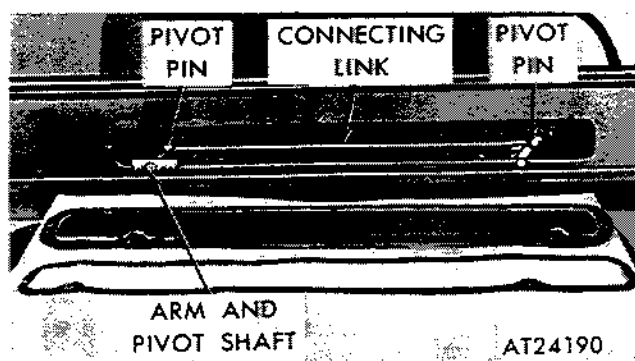

Figure 2-389. Removing or installing windshield wiper pivot shaft and connecting link (M151A2, M825, and M718A1 vehicles).
(3) Remove two snap rings and spring washers retaining two pivot pins that secure connecting link (fig. 2-389).
(4) Drive two pivot pins out and remove bushing from each pin. Remove the connecting link (fig. 2-389).
(5) Remove two screws and lockwasher securing arm and pivot shaft assembly to its mounting bracket (fig. 2-389).
(6) Remove arm and pivot shaft assembly from vehicle.
(7) Remove the two screws and washers securing wiper motor and control switch assembly to inside of windshield panel.